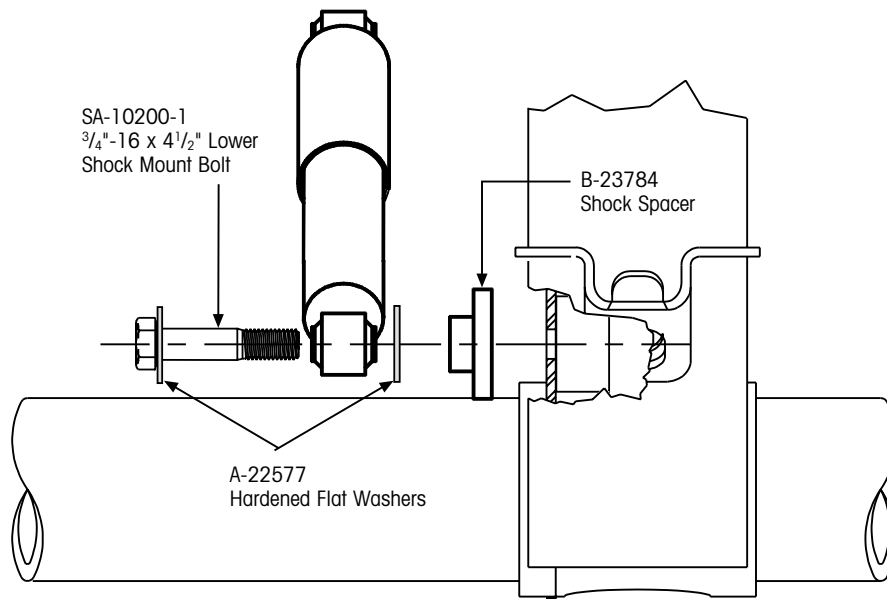

Figure 6. AA230/AA250 Rev. C (Undamaged Thread)
3. Insert the shock bolt through the hardened washer, shock, hardened washer, spacer block and into the hole in the suspension beam (Figure 6, page 7).